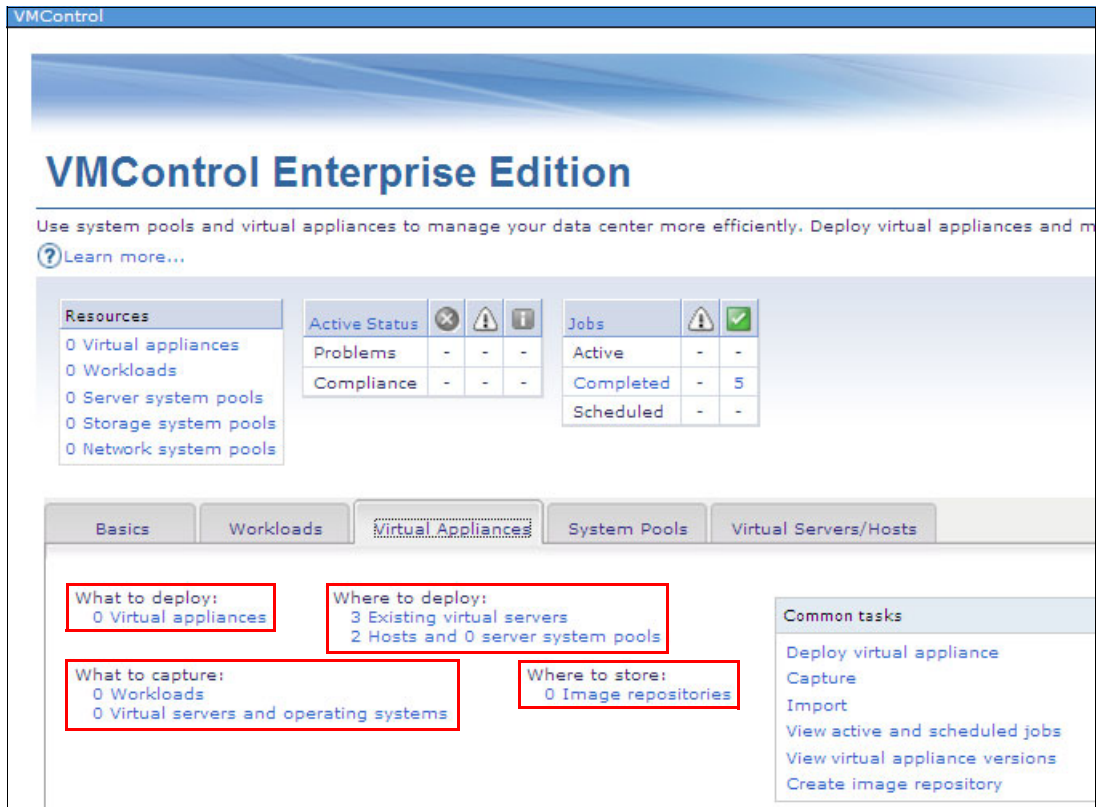

Figure 10-31 Virtual Appliances tab
3. Click the **Virtual Appliances** tab to see the status of managed virtual appliances from the perspective of the virtual machine deployment, as shown in Figure 10-31 on page 418.
The following information is highlighted in Figure 10-31: